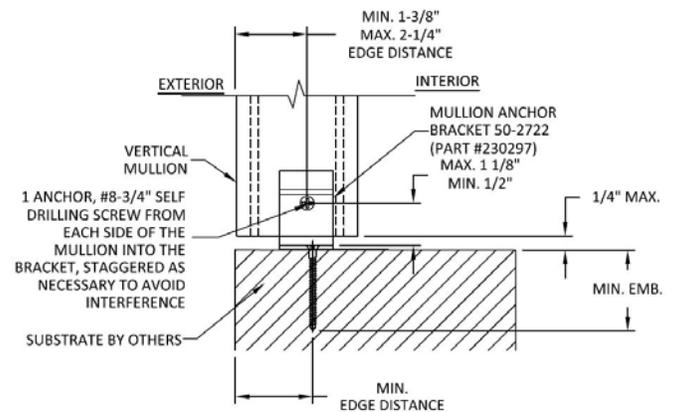

Figure 7a
- The H-mullion must be secured to the H-mullion clip per Florida Product Approval #6067 by using the supplied #8 self-drilling screws. For reference, the detail from FL #6067 is shown in **(Fig. 7a)**.